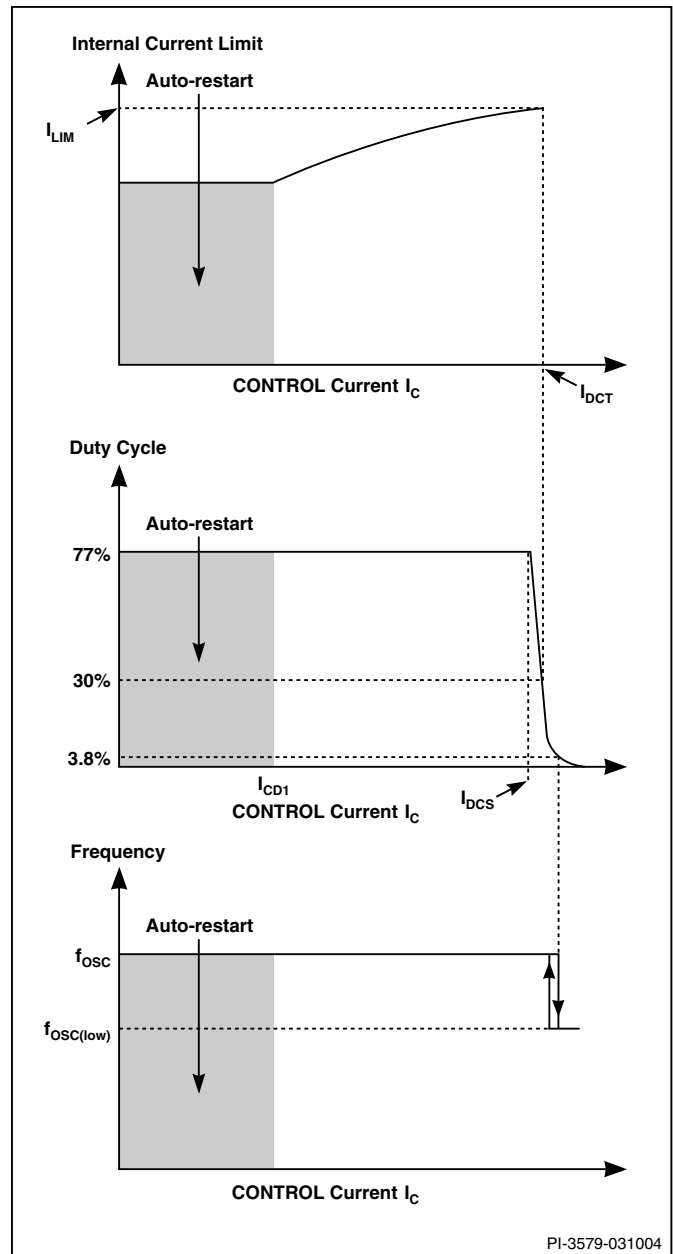
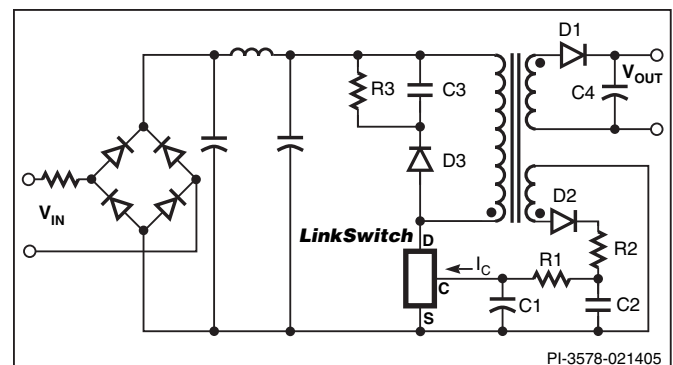
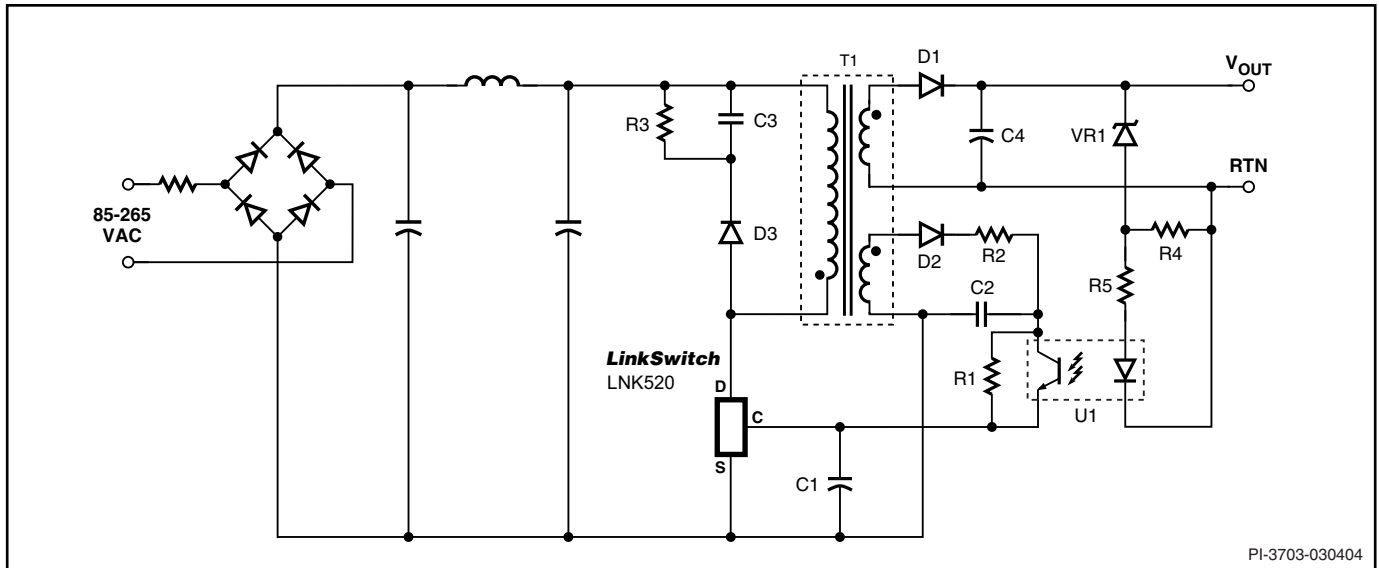

Figure 4. CONTROL Characteristics.
Figure 5. Power Supply Schematic outline.
Figure 6. Power Supply Schematic Outline with Optocoupler Feedback, Providing Tight CV Regulation.
The duty cycle, current limit and operating frequency relationships with CONTROL pin current are shown in Figure 4. Figure 5 shows a typical power supply schematic outline which is used below to describe the LinkSwitch operation.
During power up, as  $V_{IN}$  is first applied (Figure 5), the CONTROL pin capacitor C1 is charged through a switched high voltage current source connected internally between the DRAIN and CONTROL pins (see Figure 2). When the CONTROL pin voltage reaches approximately 5.6 V relative to the SOURCE pin, the high voltage current source is turned off, the internal control circuitry is activated and the high voltage internal MOSFET starts to switch. At this point, the charge stored on C1 is used to supply the internal consumption of the chip.
As the output voltage, and therefore the reflected voltage across the transformer bias winding ramp up, the feedback CONTROL current  $I_C$  flowing through R1 increases. As shown in Figure 4, the internal current limit increases with  $I_C$  and reaches  $I_{LIM}$  when  $I_C$  is equal to  $I_{DCT}$ . The internal current limit vs.  $I_C$  characteristic is designed to provide an approximately constant power supply output current as the power supply output voltage rises.
When  $I_C$  exceeds  $I_{DCS}$ , typically 2 mA (Figure 4), the maximum duty cycle is reduced. At a value of  $I_C$  that depends on power supply input voltage, the duty cycle control limits LinkSwitch peak current below the internal current limit value. At this point the power supply transitions from CC to CV operation. With minimum input voltage in a typical universal input design, this transition occurs at approximately 30% duty cycle. Resistor R1 (Figure 5) is therefore initially selected to conduct a value of  $I_C$  approximately equal to  $I_{DCT}$  when  $V_{OUT}$  is at the desired value at the minimum power supply input voltage. The final choice of R1 is made when the rest of the circuit design is complete. When the duty cycle drops below approximately 4%, the frequency is reduced, which reduces energy consumption under light load conditions.
Figure 6 shows a typical power supply schematic outline using LinkSwitch with optocoupler feedback to improve output voltage regulation. On the primary side, the schematic only differs from Figure 5 by the addition of optocoupler U1 transistor in parallel to R1.
When the power supply operates in the constant current (CC) region, for example at start up and when charging a battery, the output voltage is below the voltage feedback threshold defined by U1 and VR1 and the optocoupler is fully off. In this region, the circuit behaves exactly as previously described with reference to Figure 5 where the voltage across C2 and therefore the current flowing through R1 increases with increasing output voltage and the LinkSwitch internal current limit is adjusted to provide an approximate CC output characteristic.
When the output reaches the voltage feedback threshold set by U1 and VR1, the optocoupler turns on. Any further increase in the power supply output voltage results in the U1 transistor current increasing. The resulting increase in the LinkSwitch CONTROL current reduces the duty cycle according to Figure 4 and therefore, maintains the output voltage regulation.
At very light or no-load, typically less than 2 mA of output current, the output voltage rises due to leakage inductance peak charging of the secondary. This voltage rise can be reduced with a small preload with little change to no-load power consumption. The output voltage load variation can be improved across the whole load range by adding an optocoupler and secondary reference (Figure 6). The secondary reference is designed to only provide feedback above the normal peak power point voltage to maintain the correct constant current characteristic.